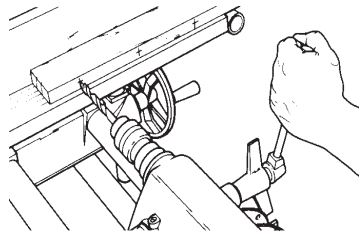

Figure D-35
5. Set the speed, turn on the Mark 7, and feed the bit into the stock. See Figure D-35. When boring deep holes, it will be necessary to retract the bit now and then to clear chips from the hole. When you feel the depth control stop the quill, retract the bit. Turn off the machine. Let it come to a stop, then remove the stock.